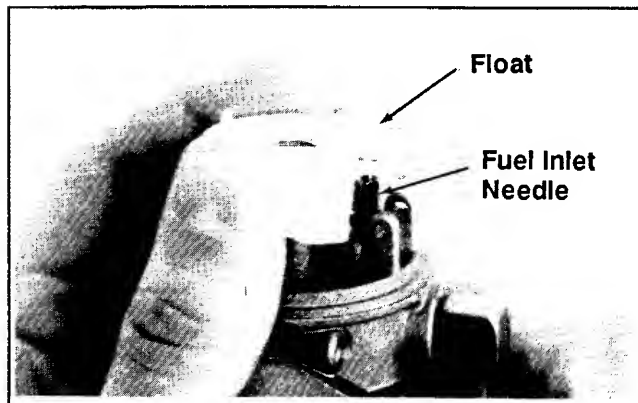

Figure 5-9. Installing Float And Fuel Inlet Needle.
4. Insert the fuel inlet needle into the float. Lower the float/needle into the carburetor body. See Figure 5-9.